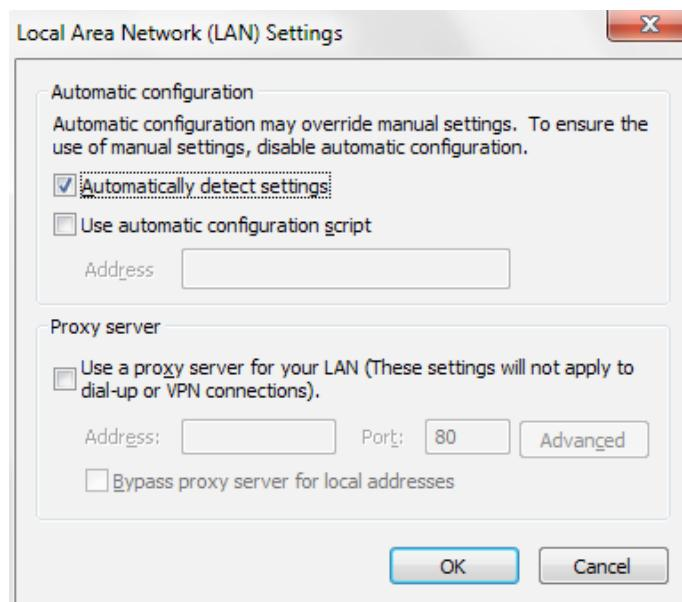

Figure 4-27 LAN settings dialog box
- » On clicking LAN settings, the following dialog box opens up as shown in Figure 4-27: